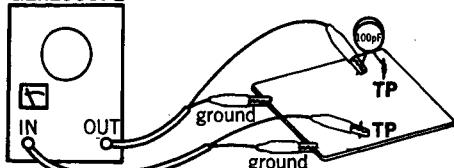

Fig. 3-2
1. FM, IF, RF Adjustment and Dial Calibration (See Fig. 3-1 & Fig. 3-2 on Page 9)
2. FM STEREO Adjustment (See Fig. 3-1 & Fig. 3-2 on Page 9)